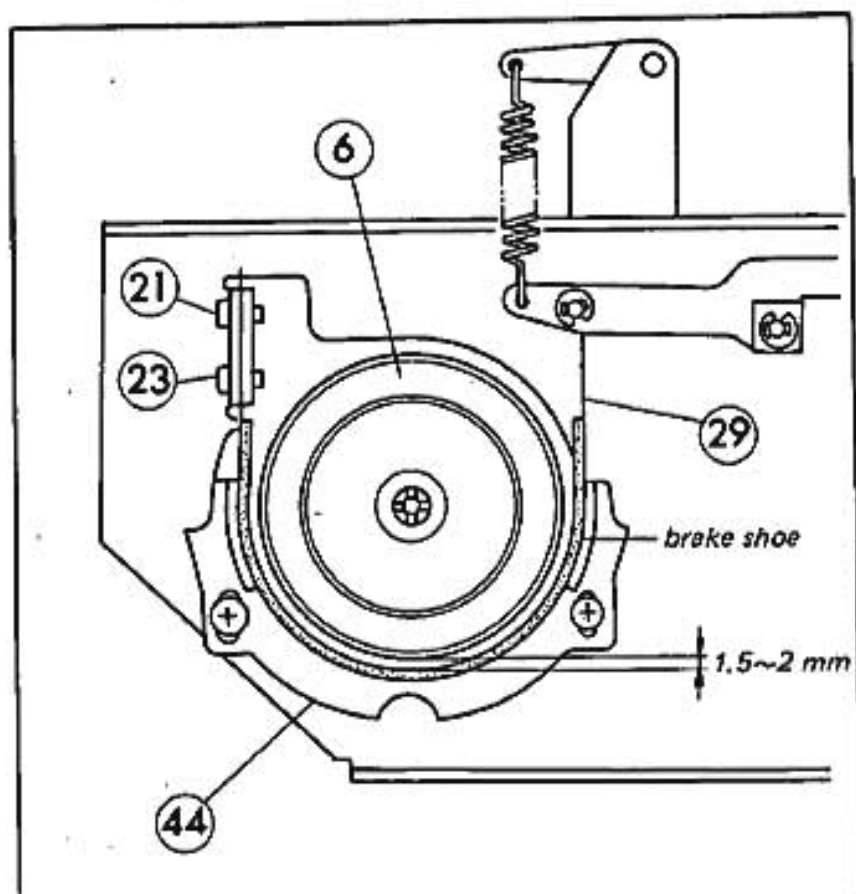

Fig. 10-2 Brake adjustment (approx)
(See Figs. 10-2, 10-3)
- 2) Adjust the brake band ⑲, with the two B type screws ⑳, ㉑ partially tightened, so that the brake band contacts the guide ④ uniformly as in Fig. 10-2. At this time, the clearance between the brake shoe and the brake drum ⑥ should be approximately 1.5 mm to 2 mm. Secure, then, the brake band bracket in place by tightening the two B type screws completely.